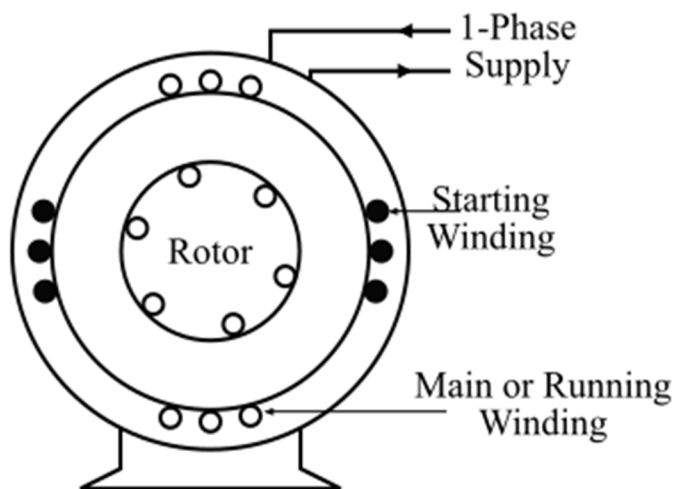

Fig. 1
A split-phase induction motor is a type of single-phase induction motor in which the stator is provided with a starting or auxiliary winding (S) and a main or running winding (M). The starting winding is displaced by 90° from the main winding as shown in the figure 1.